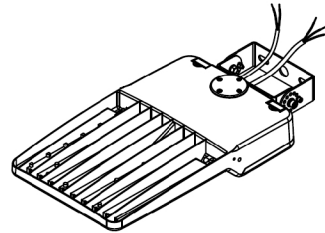

Fig. 8
4. Keep enough length wires to ensure adjusting angle unhindered. Refer to the wiring layout fig 16, (black to line, white to neutral, and yellow/green to ground), as shown in Fig. 8.